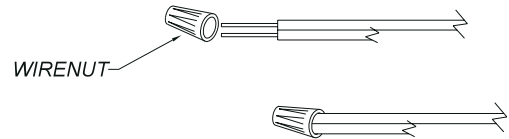

Figure 3
5. Using wirenuts ⑥ connect white outlet box wire to white wire lead. Connect black outlet box wire to black (or other color) ballast lead. See Figure 3. Test connection by pulling on each wire lead.